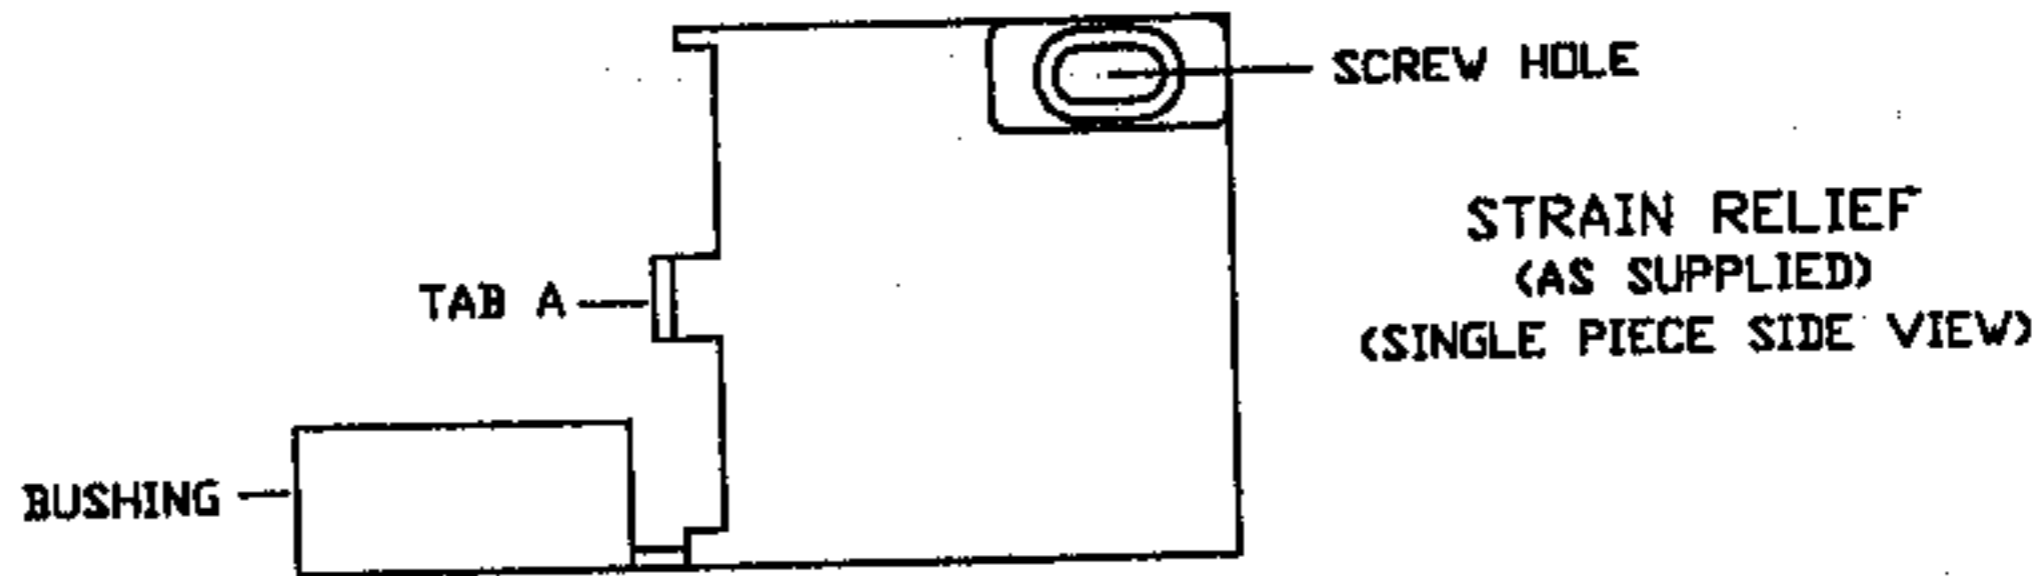

Figure 2.3-5 Strain Relief (1 piece)
1. Snap off the rectangular bushing attached to each piece of the strain relief. See Figure 2.3-5.